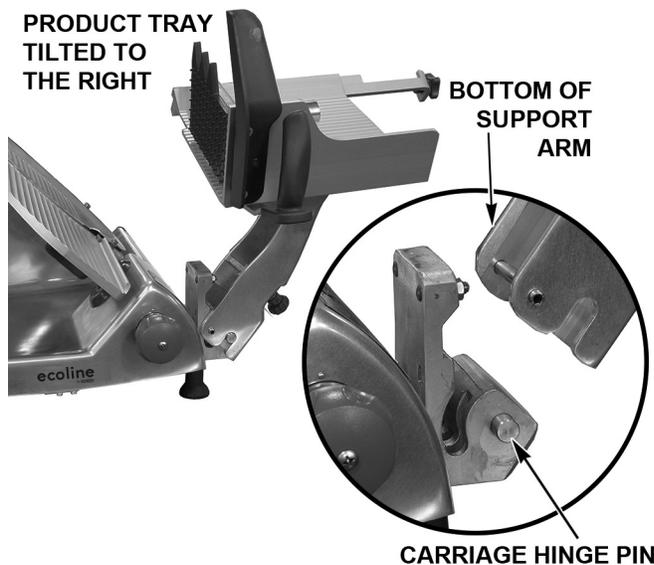

Fig. 13
- Lower the bottom of the Support Arm onto the Carriage Hinge Pins (Fig. 13).